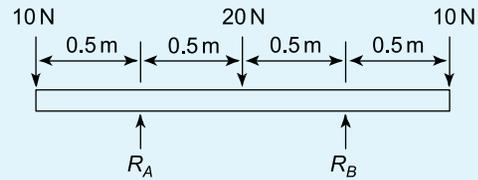

Figure 5.36
7. With reference to Figure 5.36, the reaction  $R_A$  is:
8. With reference to Figure 5.36, when moments are taken about  $R_A$ , the sum of the anticlockwise moments is:
9. With reference to Figure 5.36, when moments are taken about the right-hand end, the sum of the clockwise moments is:
10. With reference to Figure 5.36, which of the following statements is false?